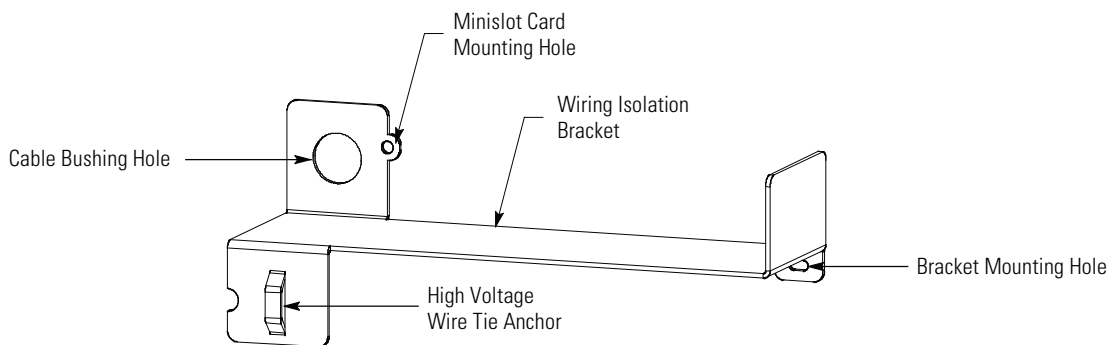
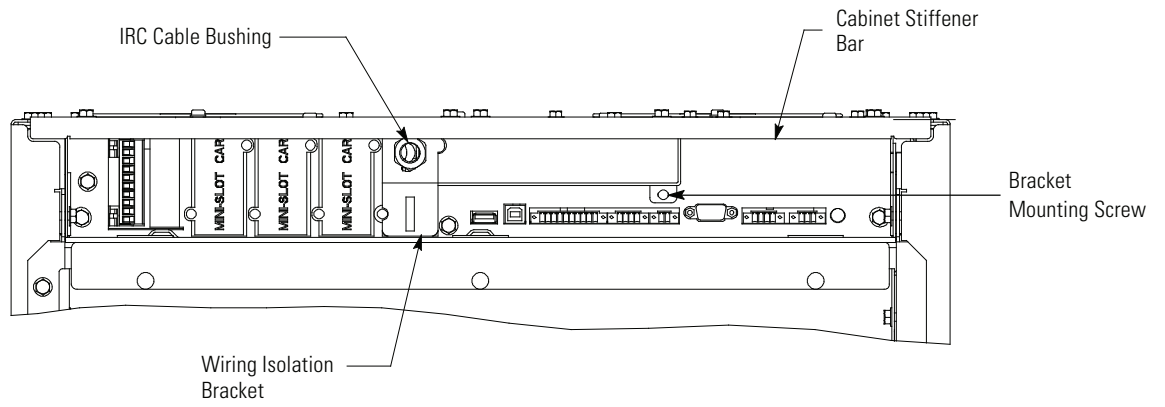

Figure 1. IRC Wiring Isolation Bracket
Figure 2. IRC Cable Bushing
2. Install the wiring isolation bracket (see Figure 1 and Figure 2) over the cable bushing hole in the IRC front plate, aligning the small hole in the bracket with the Minislot card mounting hole and reinstall the bushing.
13. Remove three screws securing the cabinet stiffener bar (see Figure 2) and remove the bar. Retain bar and screws for later use.
15. Secure the right end of the bracket with provided screw (see Figure 2).